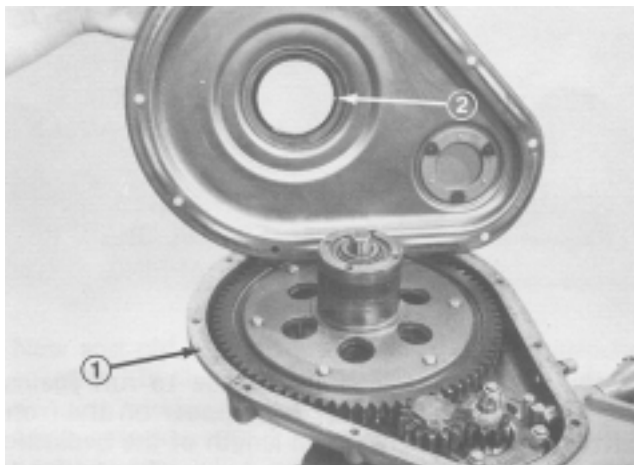

Figure 19
5. Separate cover from gear case and allow oil to drain. Remove cover and discard gear case gasket (Fig. 19).
6. Remove double lip seal (Fig. 19) from cover if worn or damaged. The ring gear hub and gear assembly can be removed from axle shaft as soon as gear case cover is removed.